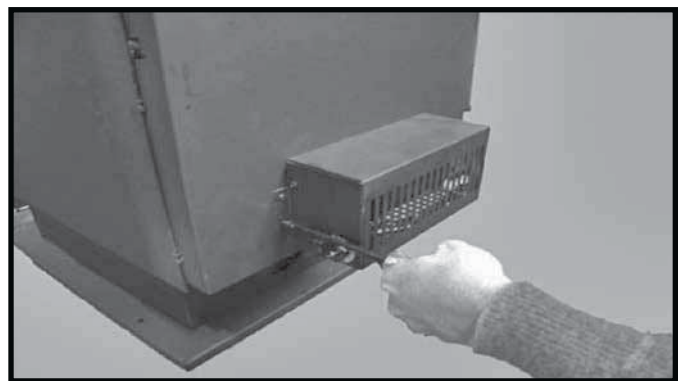

Figure 18: Installing the blower.
2. Place the blower into the opening in the rear shield with the blower outlet pointing up (Figure 18). Attach by using the screws provided with the Blower Kit,